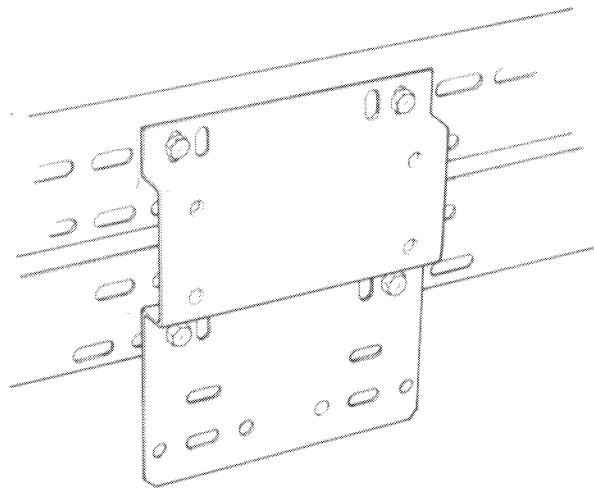

Fig. 16 Fitting of plate, mounting to equipment rack
1. Bolt the plate, mounting (5820-99-637-0882) to a convenient position on the equipment rack adjacent to the radio as in fig. 16 using 4 off M8 x 20mm bolts, nuts and washers from the attached linen bag. This position must be such that the one metre cable from the DCCU will easily reach the radio set.